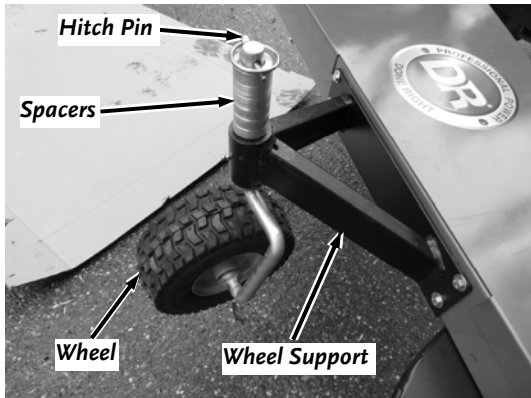

Figure 6
1. Remove the Hitch Pin and Spacers from the Wheel Shaft (**Figure 6**).